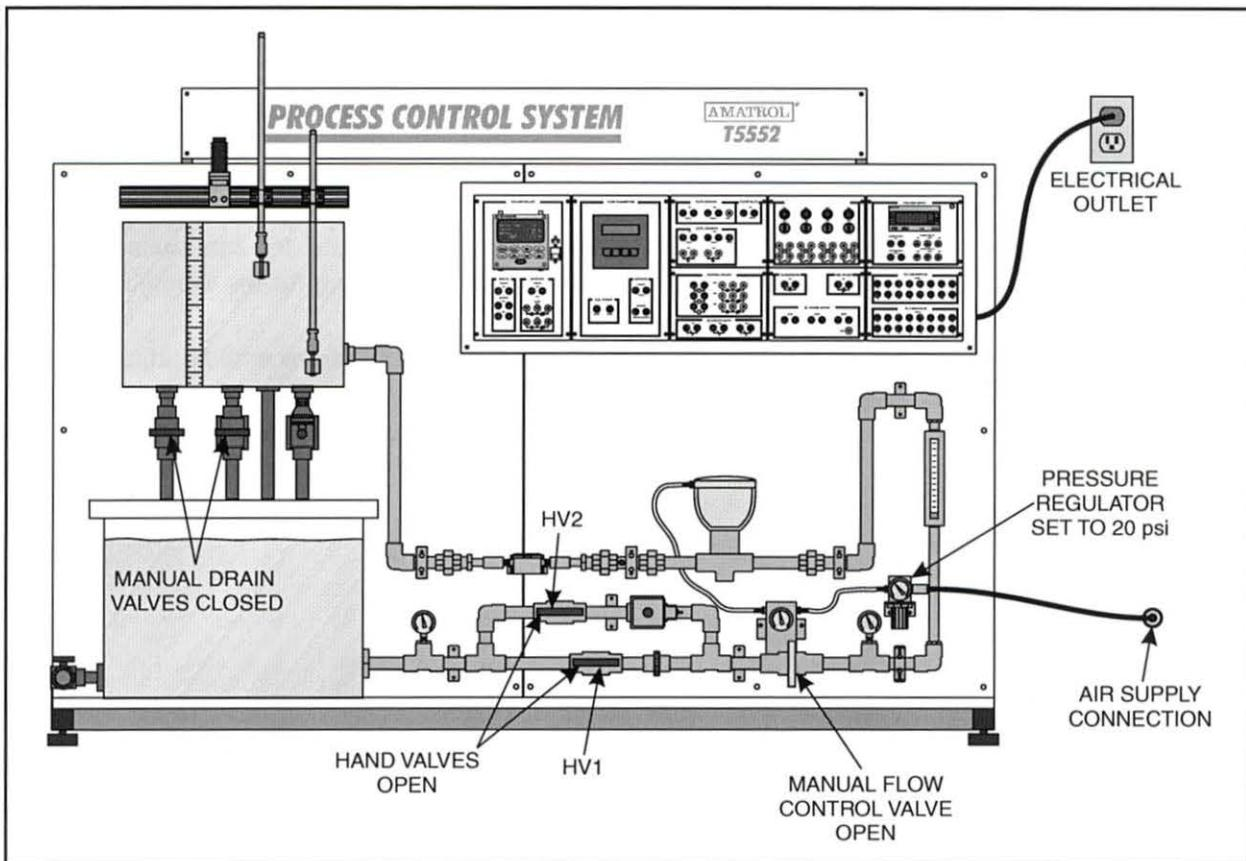

Figure 51. T5552 Setup for Closed Loop Level Control
- 2. Perform the following substeps to set up the T5552, as shown in figure 51.